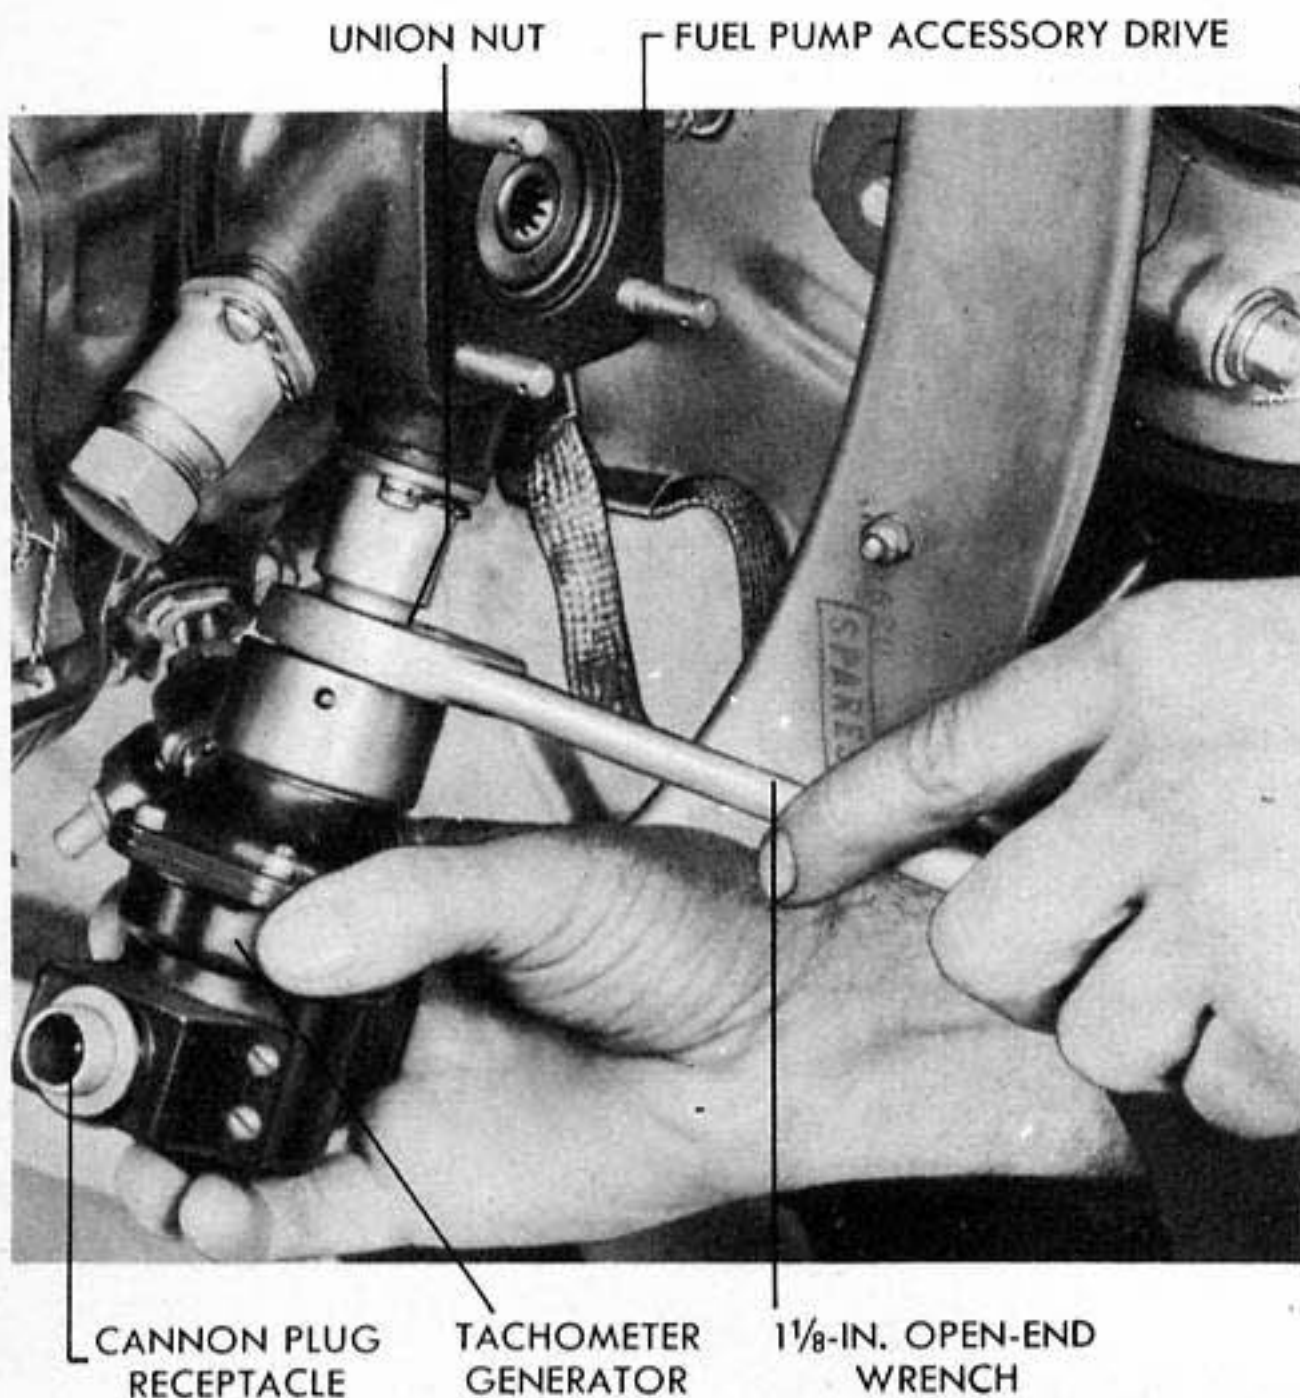

Figure 164 - REMOVING TACHOMETER GENERATOR
(4) COMPASSES. - There are two compasses in the pilot's compartment. One is the magnetic type and the other is a radio compass. See paragraph 22, this section, for information on the radio compass.
(5) TACHOMETER GENERATOR (See figure 164.) - A small generator mounted on the fuel pump accessory drive on the rear of the engine supplies the necessary electrical current to actuate the tachometer.
(3) REMOVAL OF TACHOMETER GENERATOR. (See figure 164.)